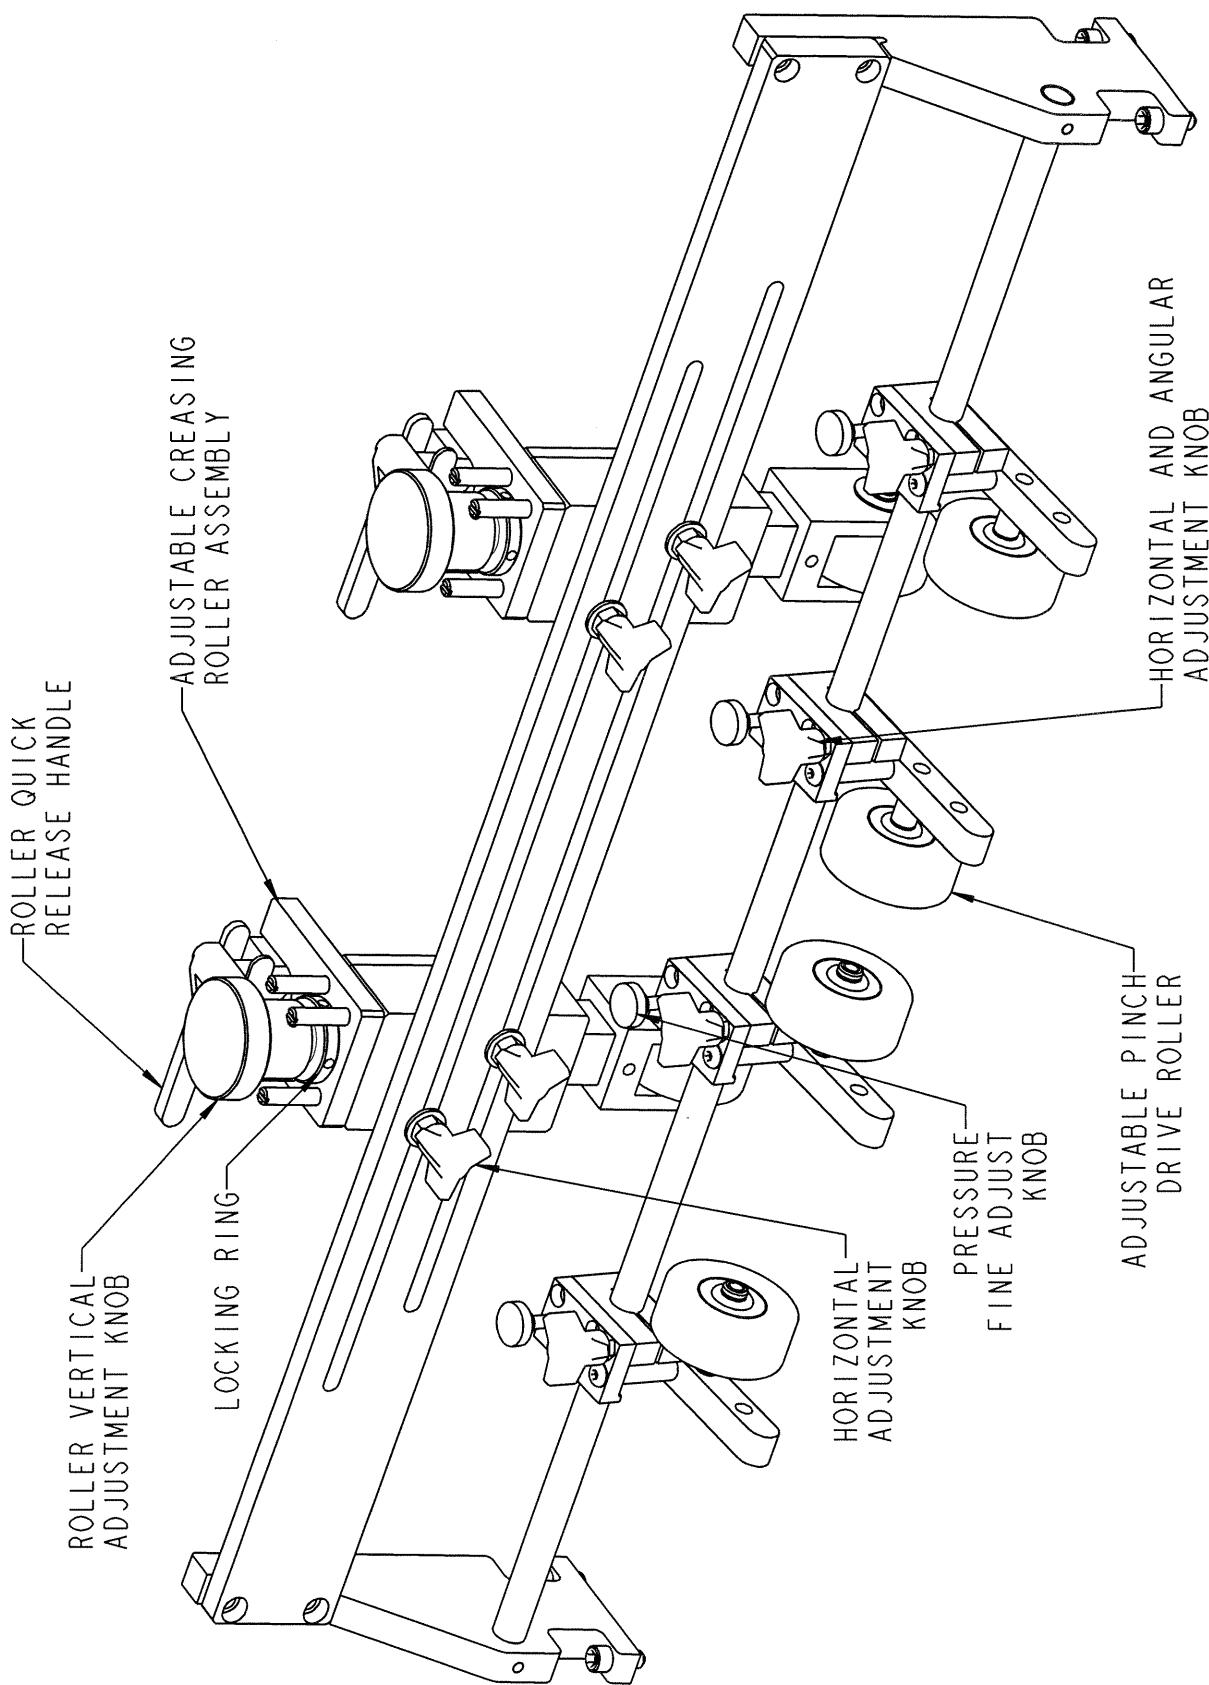
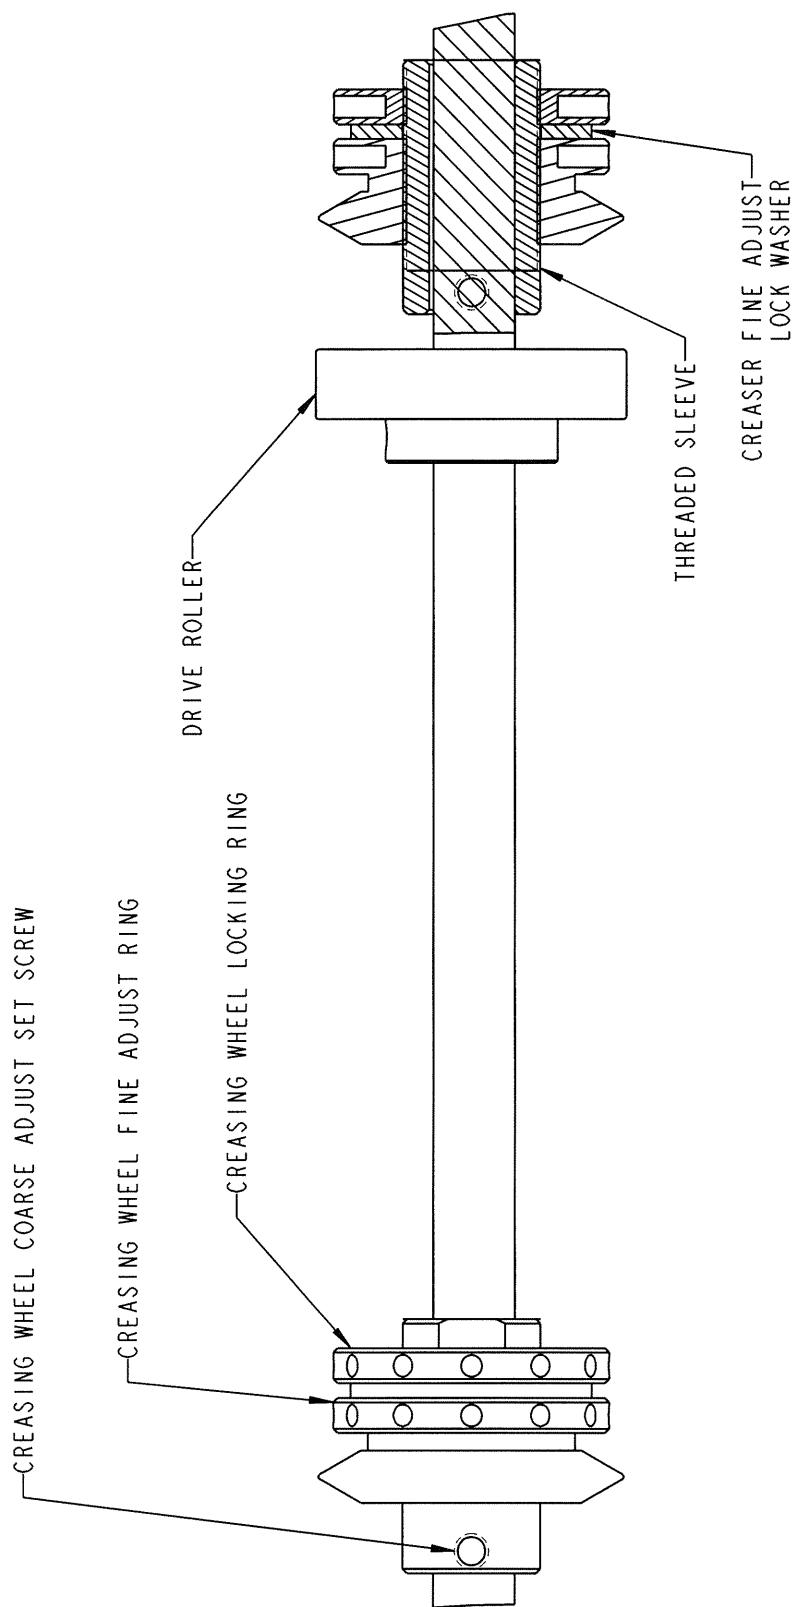

FIGURE 7.0
FIGURE 8.0
5.4 Creasing Wheel Component Descriptions (See Figure 8.0)
1. Adjust the press down rollers so that two are on the two outside vacuum belts by loosening the horizontal and angular adjustment knob and sliding the press down rollers into place. **See Figure 7.0**
2. Adjust the two outside press down rollers one inch from each edge of the product and over the outside drive belts. The lower belts will have to also be adjusted by loosening the set screws securing the idler rollers in place and sliding over. Adjust the pressure fine adjust knob to apply an even amount of pressure on each roller. The pressure should be set strong enough to drive the product but still be able to rotate with one finger while the machine is not running. **See Figure 7.0**
3. The creasing rollers should be adjusted so that the edge of the creasing roller is above the tabletop approximately 1/16 to 1/8 of an inch by adjusting the creasing roller adjustment knob. **See Figure 7.0**
4. The creasing rollers should be adjusted to line up with the desired fold line. Loosen the creasing wheel coarse adjust set screw with a 1/8 inch allen wrench and slide the creasing wheel close to where the fold line will be. Tighten the assembly in place. To use the fine adjust loosen the creasing wheel locking ring and rotate the creasing wheel fine adjust ring to move the wheel. Retighten the creasing wheel locking ring to secure the creasing wheel in place. **See Figure 8.0**
the creasing roller adjustment knob (see **Figure 7.0**) clock wise to increase the scored depth or counter-clockwise to decrease the scored depth.
1. The drive roller (see **Figure 8.0**) next to the creasing wheel is used to drive product through that doesn't need to be creased. Loosen the set screw securing the drive roller to the shaft a move to a location to drive the product through. Locate the adjustable creasing roller assembly (see **Figure 7.0**) directly over the drive using the horizontal adjustment knobs. Adjust the tension by using the roller vertical adjustment knob. Make sure that the roller quick release handle is in the down and locked position before making the adjustment.